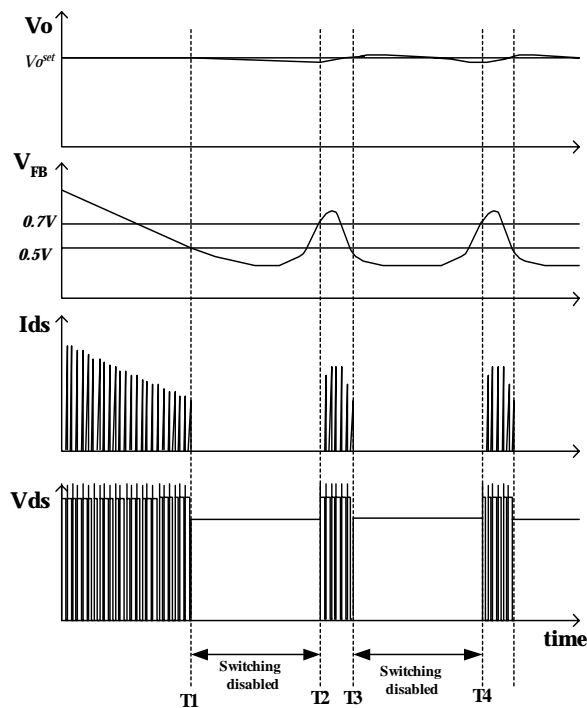

Figure 8. Waveforms of burst operation
**5. Burst operation :** In order to minimize power dissipation in standby mode, the FSDM07652RB enters burst mode operation. As the load decreases, the feedback voltage decreases. As shown in Figure 8, the device automatically enters burst mode when the feedback voltage drops below  $V_{BURL}(500mV)$ . At this point switching stops and the output voltages start to drop at a rate dependent on standby current load. This causes the feedback voltage to rise. Once it passes  $V_{BURH}(700mV)$  switching resumes. The feedback voltage then falls and the process repeats. Burst mode operation alternately enables and disables switching of the power Sense FET thereby reducing switching loss in Standby mode.